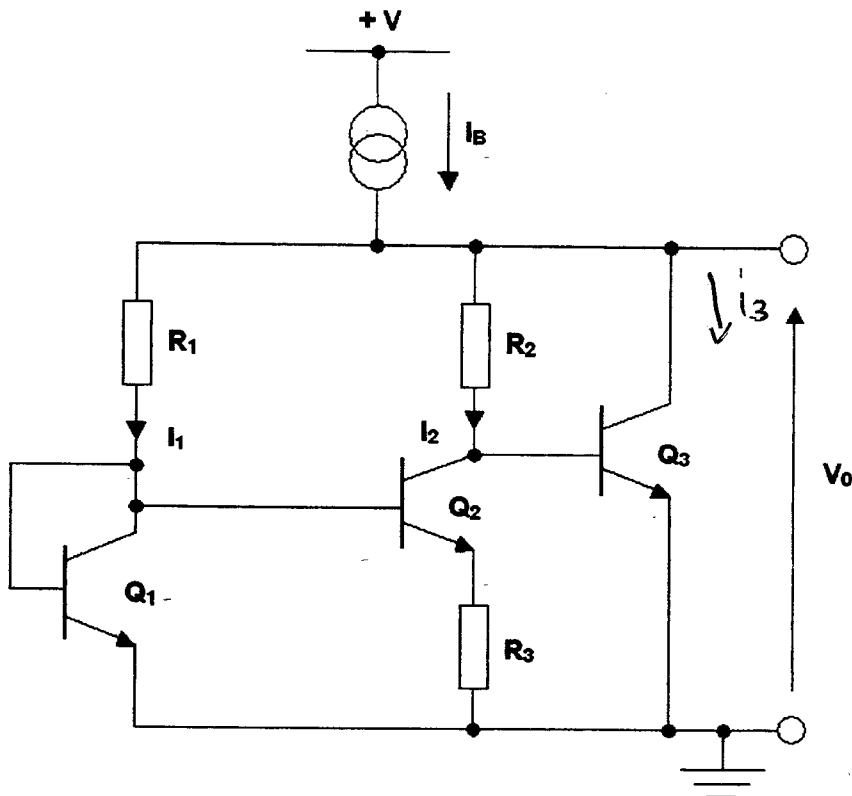

Figure 2.1
2. (a) Briefly describe the function of each of the three biasing circuits in Figures 2.1–2.3, giving reasons for their suitability in an integrated circuit application. [8]
- (b) For the bandgap voltage reference circuit of Figure 2.1, show that  $\delta V_0 / \delta T = 0$  (where  $T$  is temperature) if  $(R_2/R_3) \ln(I_1/I_2) = 29$ , and that this condition occurs if  $V_0 = 1.283$  V.